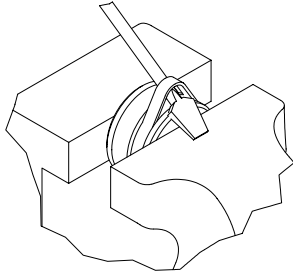

Figure 5-10, Piston Seal
7. Carefully pry up on the piston seals using a blunt tip screw driver being careful not to scratch the seal grooves. Cut the seals to remove from the piston. (Figure 5-10)